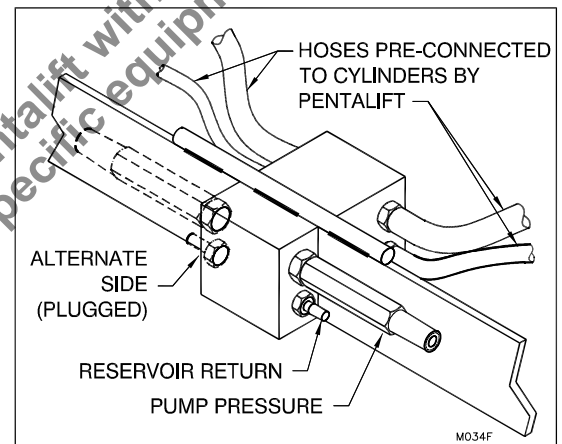

Figure 4: Connect Hoses to Junction Block on Side Nearest to the Power Unit (utilized when three or more lift cylinders are on lift)
5. If the power unit is remote, mount the power unit in the desired location and connect the hydraulic hoses (See "Figure 4: Connect Hoses to Junction Block on Side Nearest to the Power Unit" on page 5). Ideally, the reservoir should be mounted on a wall approximately 6 1/2 feet above the ground.
7. For units with more than two lift cylinders, connect the two hydraulic lines to the hydraulic junction block located on the fixed end of the frame (See Figure 4, Page 5). The junction block is designed to facilitate connection of the hoses to the block from either side. If warranted, to accommodate a more direct path to the power unit, hydraulic plugs provided in the junction block can be switched from one side of the junction block with the fittings provided on the other side of the junction block. **NOTE:** The pressure line is the larger diameter size hose of the two supplied hoses and the bypass line is the smaller diameter size hose of the two supplied hoses. Matching sizes hose connection fittings will be provided to avoid incorrect switching of the hoses.